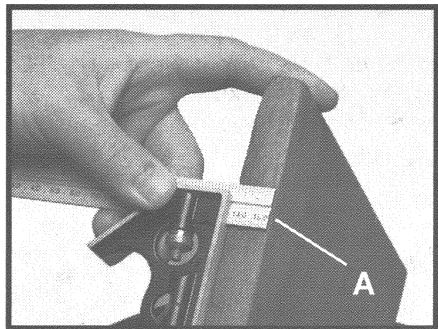

Fig. 23
2. Use a square (A) Fig. 23 to measure the thickness of the lumber.